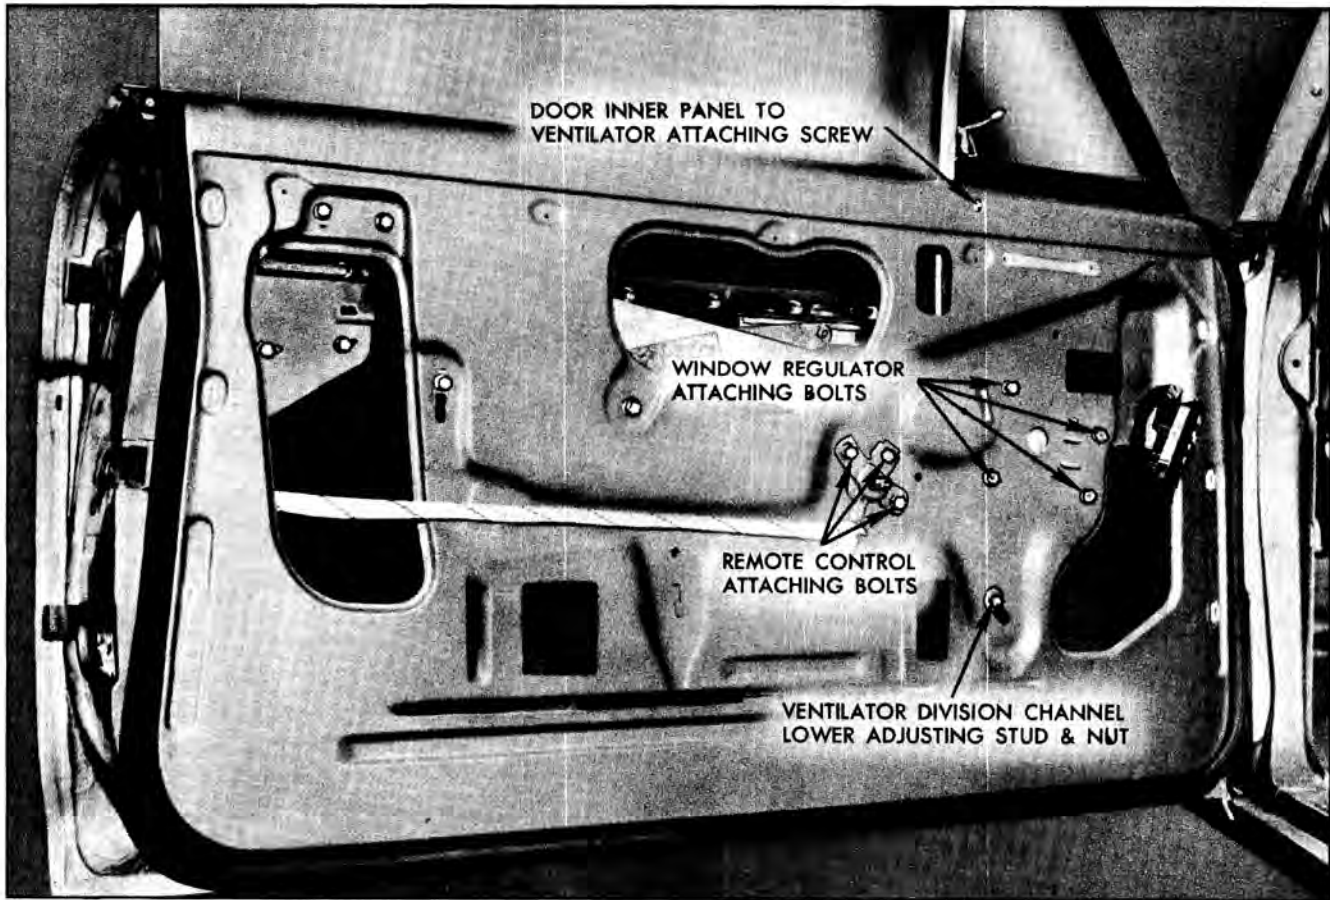

Fig. 16-336 Front Door Hardware
3. Remove ventilator division channel lower adjusting stud nut. (Fig. 16-336)